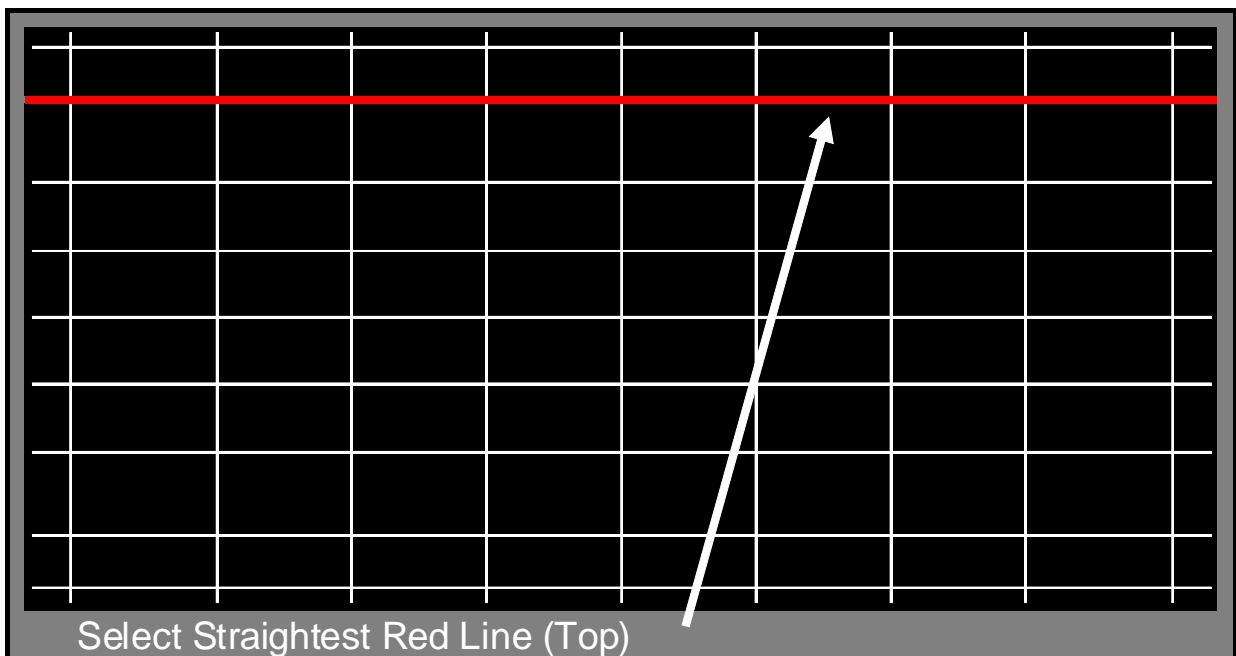

Figure 3: Top Letter Box Mode Pattern
10. Press "VIDEO" to activate the Top Letter box alignment mode, refer to *Figure 3*.